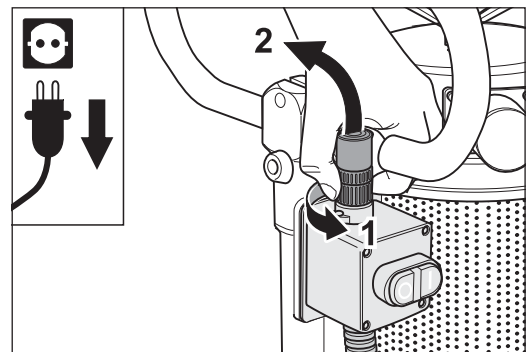

Fig. 51 Loosen the ring nut (1) and remove the cable plug from the switch (2).
- 2 Loosen the cable plug of the sensor on the on/off switch by turning the ring nut **counterclockwise** (fig. 51, 1) and pull the cable plug off (fig. 51, 2).**